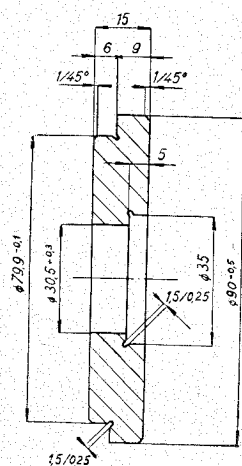

Fig. 58.
5. Install the hollow drift (see Fig. 57) on the rear end of the counter shaft and place the centering plate as shown in Fig. 58 into the front wall. Then tap the drift with a mallet so as to press-fit the ball bearing to the counter shaft and, this accomplished, remove the fitting fixtures.